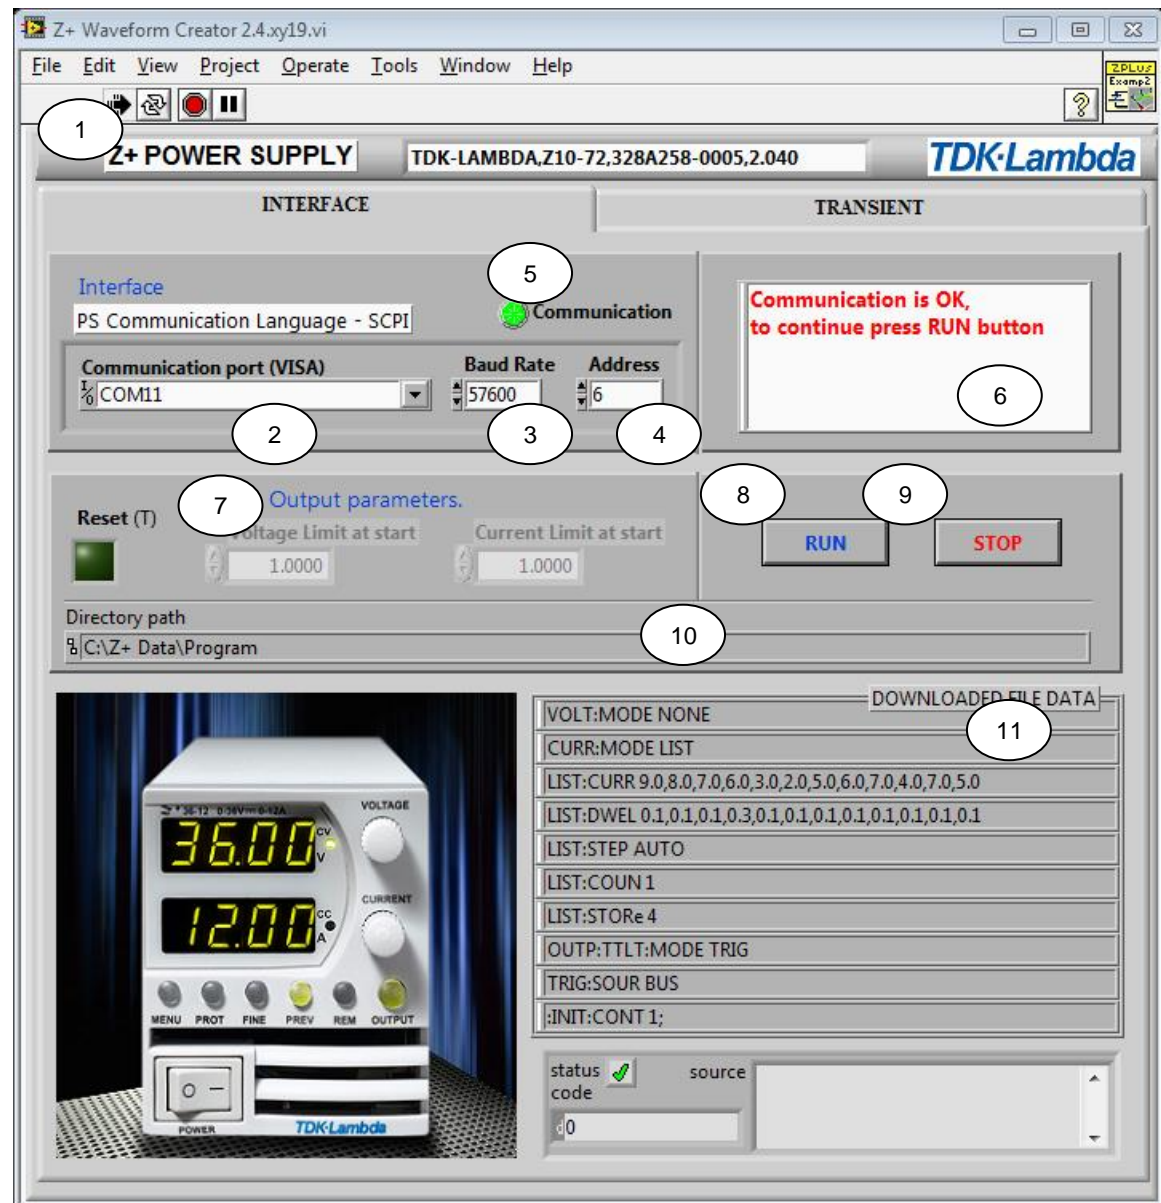

Fig 14
2. Press **RUN** button (1) to run application. Refer to Fig 14
- a. Port (VISA - COM port for RS232/485 and USB), GPIB::x::INSTR for GPIB (2) and TCPIP::x::INSTR for LAN (Refer to chapter E). Select "Refresh" to update connection.
- b. Baud Rate for RS232/485 and USB (3)
- d. Unit Address (4)
4. When communication is OK, LED (5) will illuminate with Green color.